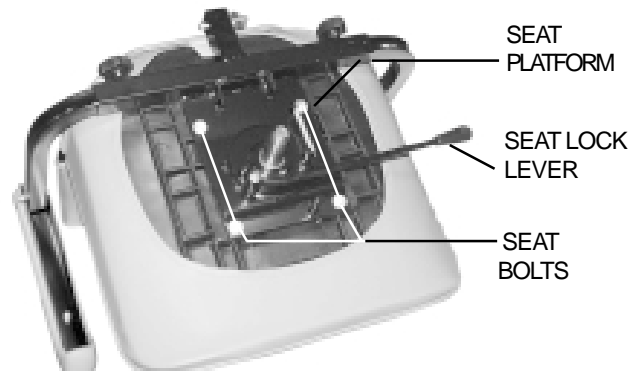

FIGURE 12. FRONT-TO-BACK SEAT ADJUSTMENT
1. Push forward on the seat lock lever and lift the seat up and off of the scooter. See figure 12.
You can reposition the scooter's seat forward or rearward to one of three settings to adjust the distance between the seat and the tiller. See figure 12.
2. Remove the four bolts that fasten the seat to the seat platform. See figure 12.